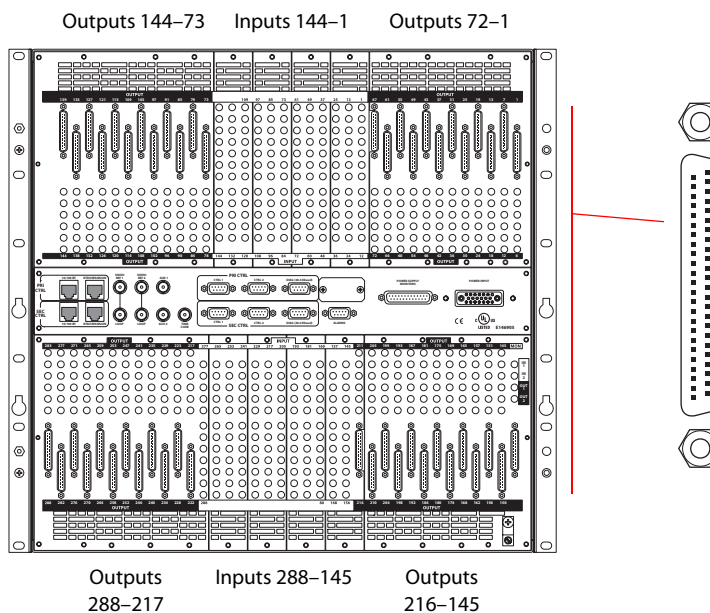

Figure 3-10. Expansion Connections for Connecting Two NV8288-Plus Routers
- 1 Locate the signal expansion connections on the rear of the two router frames you are connecting, as shown in Figure 3-10. The routers should be situated close together.